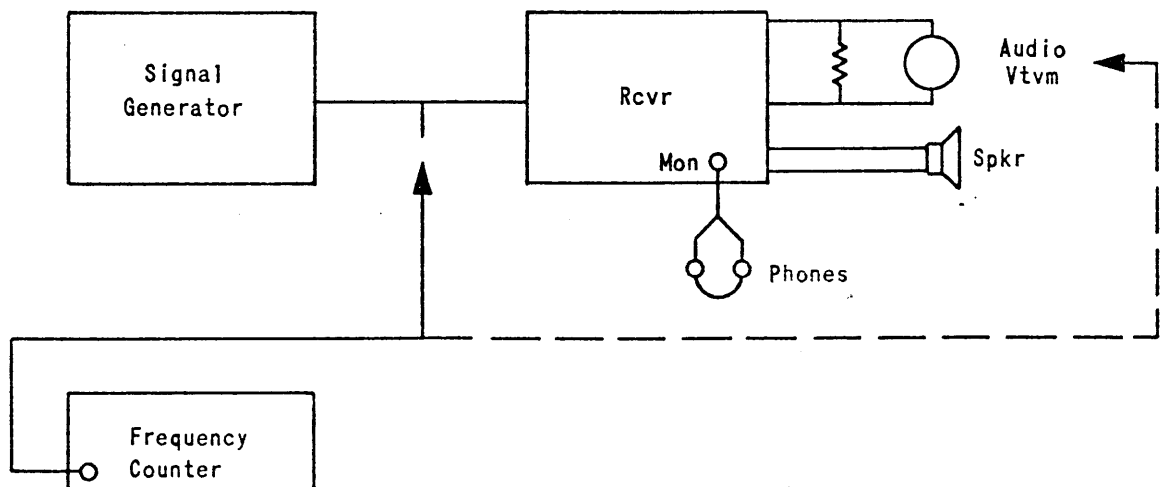

FIGURE 5-1
a. Connect the receiver and test equipment as shown in Figure 5-1.